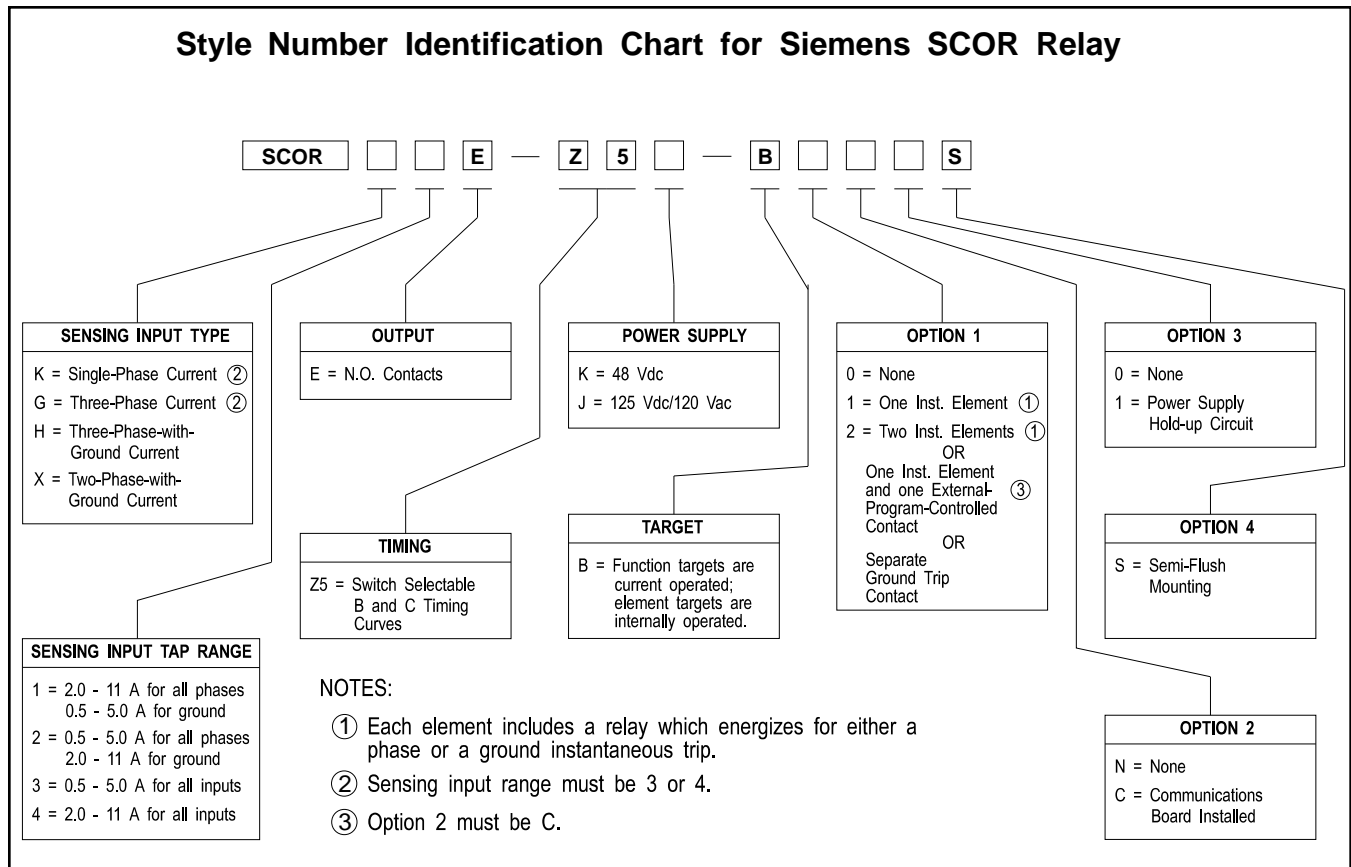

Figure 2 Style Number Identification Chart
1.11 Style Number (Figure 2)
The style number of the relay determines the features to be included (or ordered) for a particular application. Each available option is represented by a character as shown in Figure 2 Style Number Identification Chart.